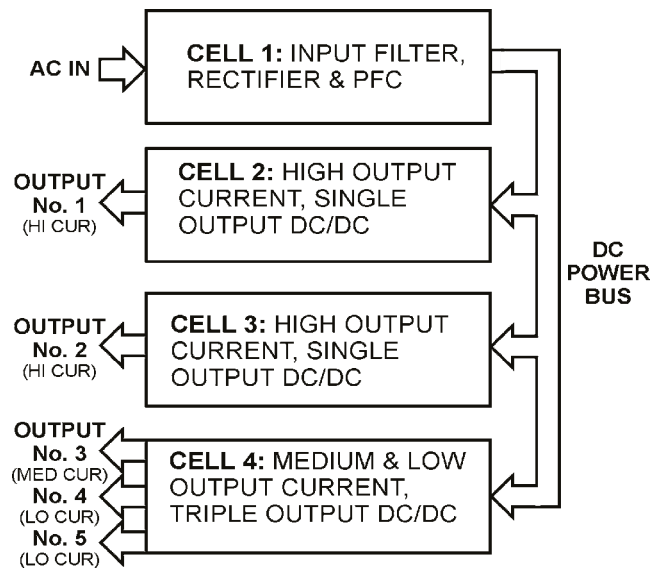

Figure 2 - PowerCassette Simplified Block Diagram (AC Input)
- 7.1 A simplified block diagram of a Quick-Set PowerCassette unit with AC input is shown in Figure 2. PowerCassette employs a new, advanced CellularPower™ architecture consisting of standardized power cells. The diagram shows that there are four power cells employed.